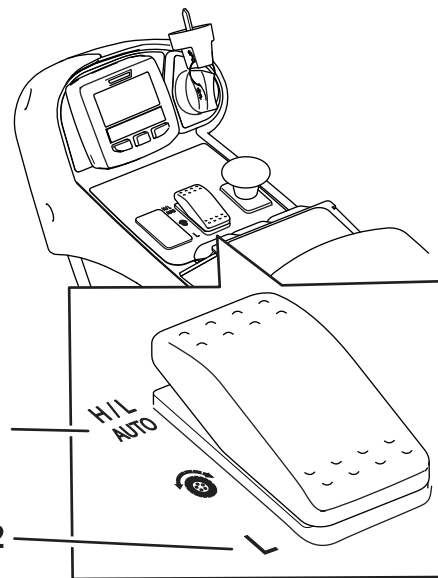
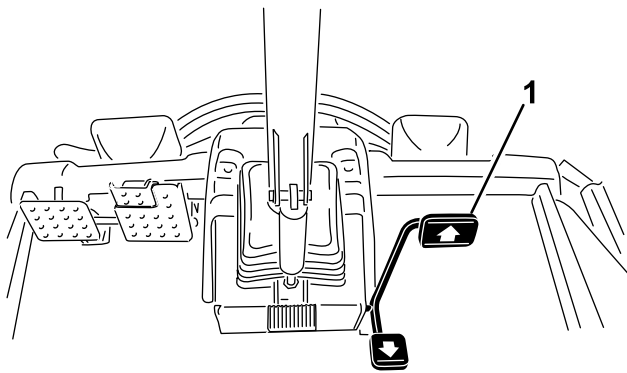

Figure 20
Figure 21
- Under normal operating conditions, this machine is intended to operate in the H/L AUTO position on the speed range switch (Figure 20). This position allows the machine to automatically switch between low and high speed ranges, depending on whether the machine is being used for mowing or transporting.
- When you select the Low position on the speed range switch (Figure 20), the machine will always
This machine is equipped with 2 traction speed ranges; low and high. The speed range switch allows you to select the following positions (Figure 20):
This feature allows the ability to set the maximum speed of the machine when you push the pedal fully forward (Figure 21). You can set a separate speed for the low range and high range (Figure 20).